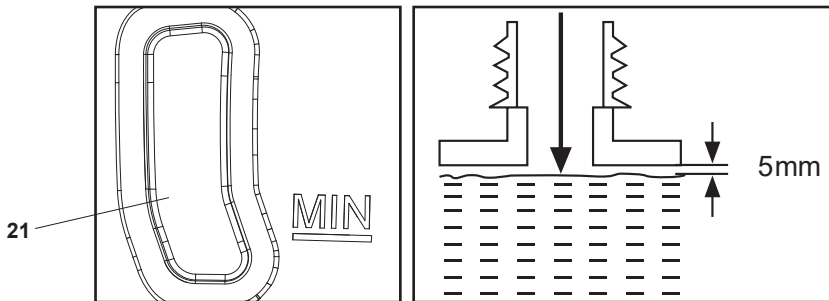

Fig. 10
4. Don't fill the oil lower than the "MIN" mark on the oil level window (21), but also do not overfill and leave approximately 5 mm of space between the top of the oil and the inside edge of the tank to allow for expansion (Fig. 10).
5. Check the oil level window (21) prior to start-up and regularly during operation. Refill oil when the oil level is close to the bottom of the oil level window (21) (Fig. 10).
6. Wipe up spilled lubricant with a soft cloth and refit the oil tank cap (20).